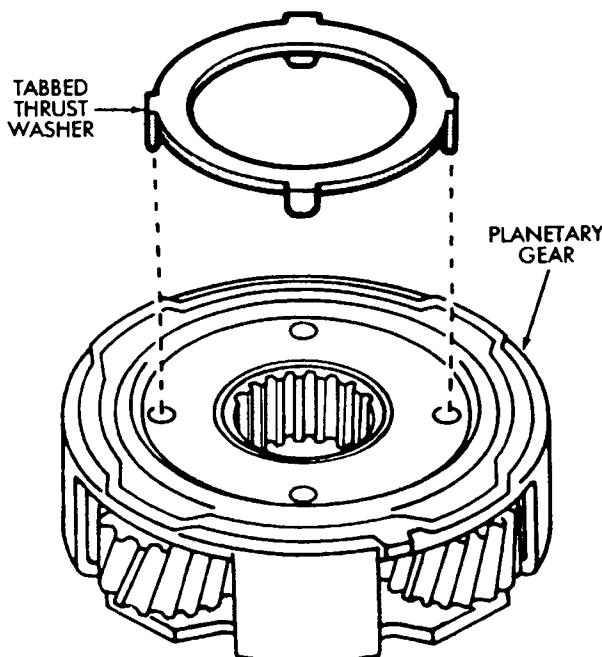

Fig. 3 Installing Front Planetary Thrust Race
- (4) Turn planetary over and install race thrust race (Fig. 3).